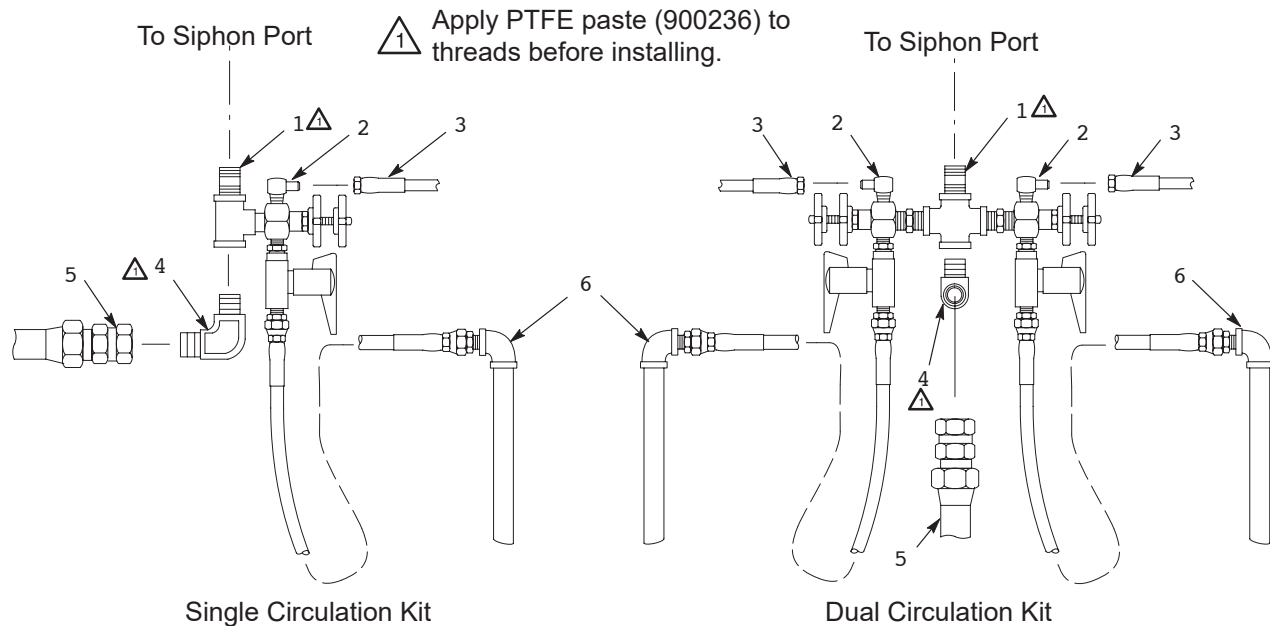

Figure 3-2 Single or Dual Circulation Kit Installation
- **Circulating Systems:** See Figure 3-2. Install an optional Single or Dual Circulation Kit as shown. Place the drain rod in a **grounded** waster container. Connect the siphon hose, rod, and strainer as shown.